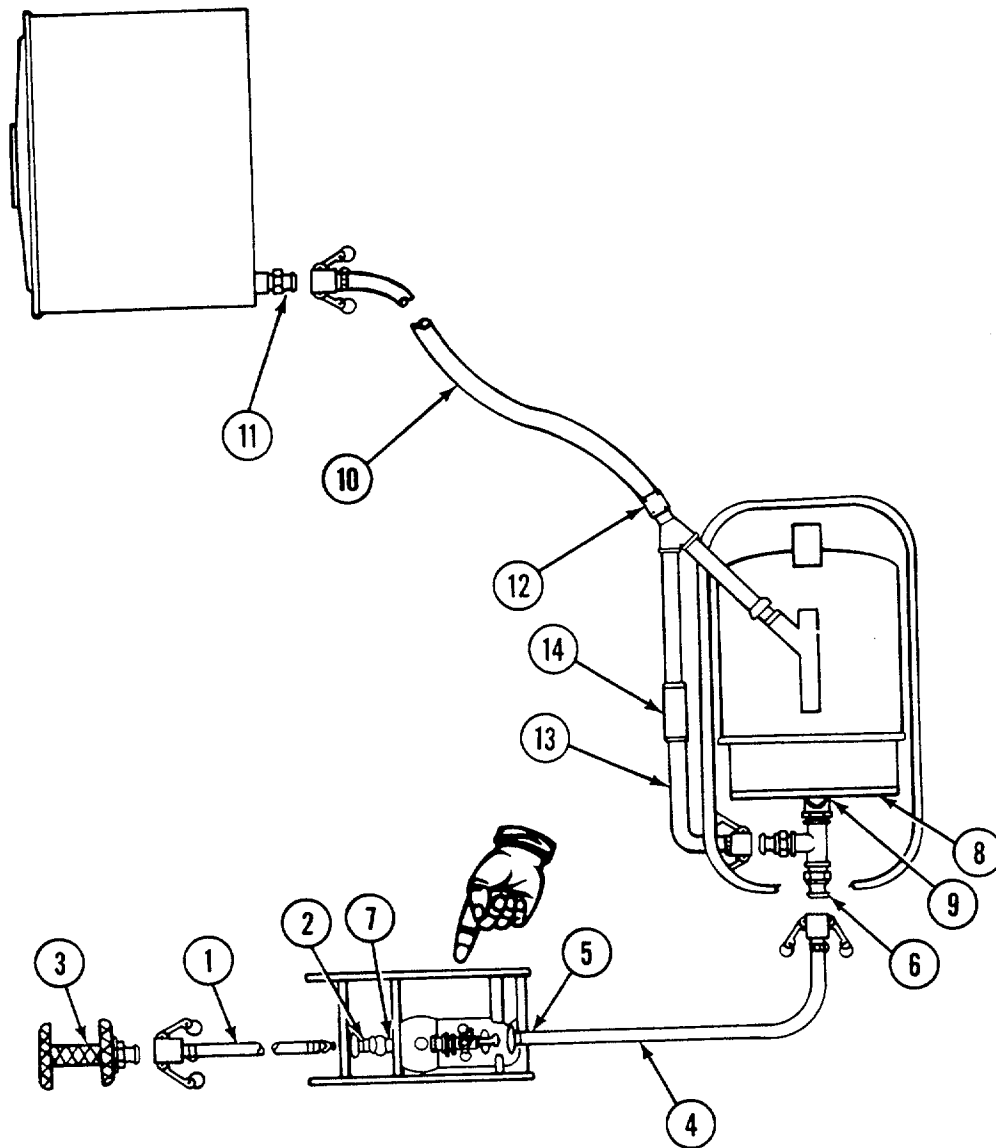

FIGURE 2-10. Water hose connection diagram.
- (2) Remove two wingnuts (2) and remove bracket assembly (1).
- (3) Remove water pump (3) and locate it no more than 10 feet (3 m) from the water source.
- (4) Install bracket (1) and tighten wingnuts (2) removed in step (2).
- (5) Connect suction hose (1, FIG. 2-10) to suction inlet (2).
Ensure that water hoses (1 and 4, FIG. 2-10) do not touch or cross other water hoses, exhaust ducts, power cables, or fuel lines. Melting/damage can occur causing leaking fuel and water or electrical hazards. Death by electrocution, fire, or explosion could result.